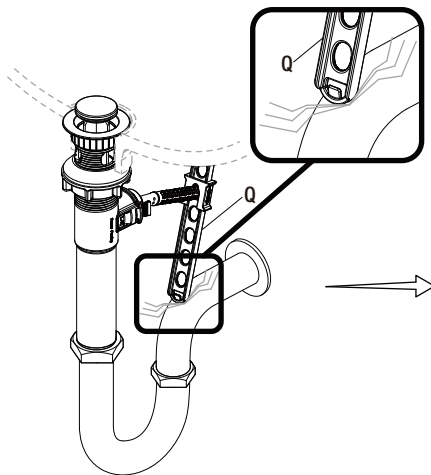

Fig 1
- If the pop up lift rod strap (Q) is interfering with your installation, as shown in the Fig 1, the lift rod strap (Q) can be cut shorter.